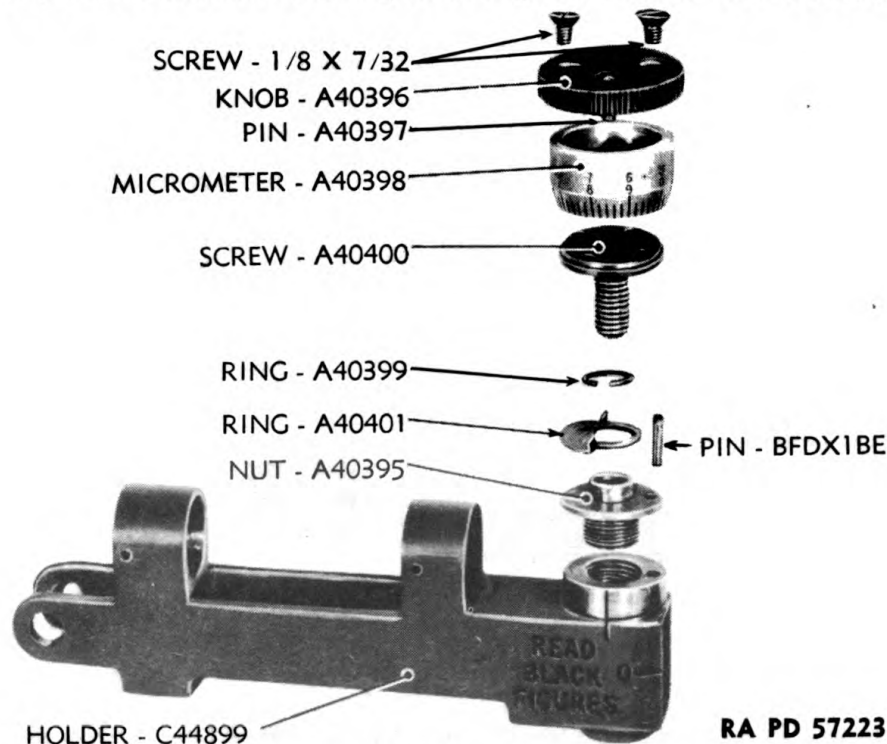

Figure 11—Gunner's Quadrant M1—Micrometer Removed
(5) REMOVE MICROMETER GROUP (fig. 11).
c. **Install Micrometer Group** (fig. 11).
(1) Thread micrometer screw nut in position on level holder until the nut is tight and the pin holes are lined up.
(2) From the top of the level holder, drive pin BFDX1BE in position in lined up holes until $\frac{1}{16}$ inch extends from top of micrometer screw nut.
(3) Place micrometer stop ring with lips upward on micrometer screw nut, and lock in position with split ring.
(4) Apply one or two drops of OIL, lubricating, for aircraft instruments and machine guns, to the micrometer screw, and thread micrometer screw through micrometer screw nut until the black auxiliary index marks of the arm and holder are in line.
(5) Facing the black graduation side of the instrument, turn the stop ring so that the solid part of the ring is toward the black index and its lip hits the pin BFDX1BE.
(6) Select the hole on micrometer screw nearest the level vial, and turn micrometer screw (not more than one-eighth turn) until this hole and the hole directly opposite it are in a straight line with the level vial.
(7) Place micrometer A40398 and knob A40396 in position over micrometer screw A40400 so that pin A40397 in knob enters the hole nearest the level vial.
(8) Secure micrometer and knob in position with two screws.